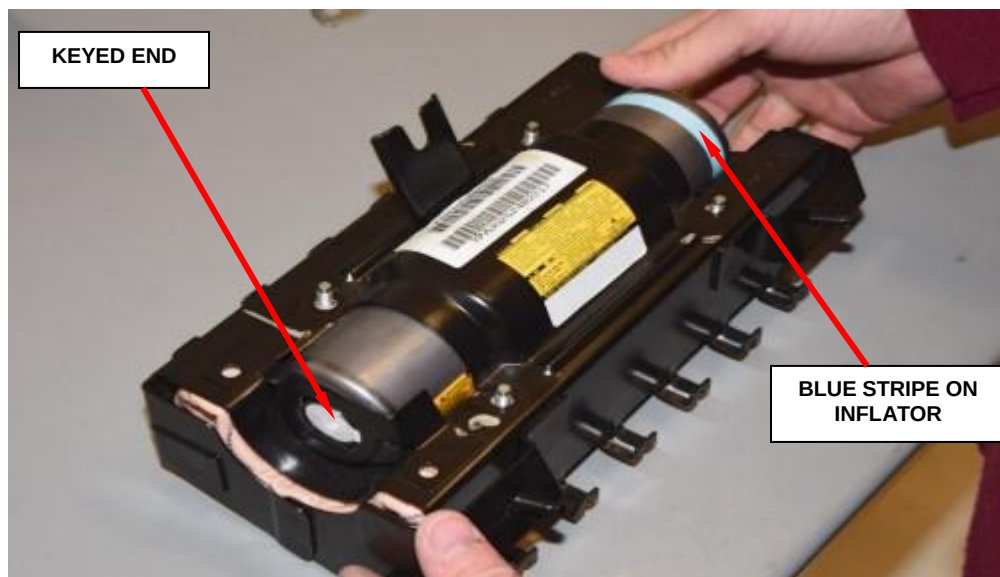

Figure 169 – Insert Inflator (Shown with Cushion Installed)
- i. Slide **new** inflator into housing. The keyed end is inserted first, therefore the blue stripe on the inflator will be located at the open end, as shown (Figure 169).